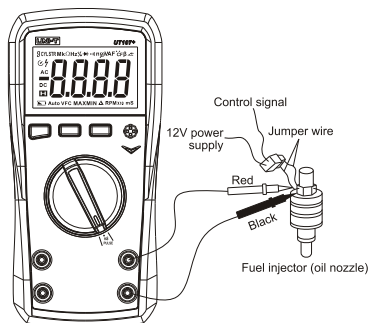

Figure 8
Pulse width refers to the duration of high level, there are different meanings for pulse width in different fields. In automotive field, the pulse width measurement is used in the fuel injection system, electromagnetic valve controlled by hybrid fuel, idle air control motor, etc. Figure 8 shows the pulse width measurement of fuel injection system.
- 2) Connect the red test lead to “V” terminal, and black to “COM”. Connect the test end as figure 8.